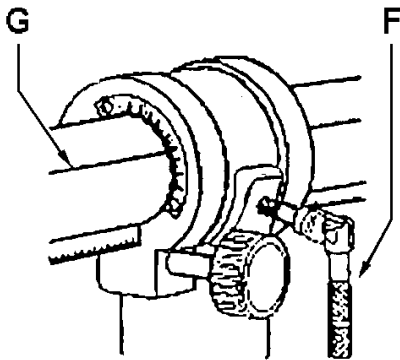

Fig 4
To tilt pull out and disengage the 90° index pin (E, Fig 4).
Loosen the clamping lever (F, Fig 4) and tilt according to the scale and reference line (G).